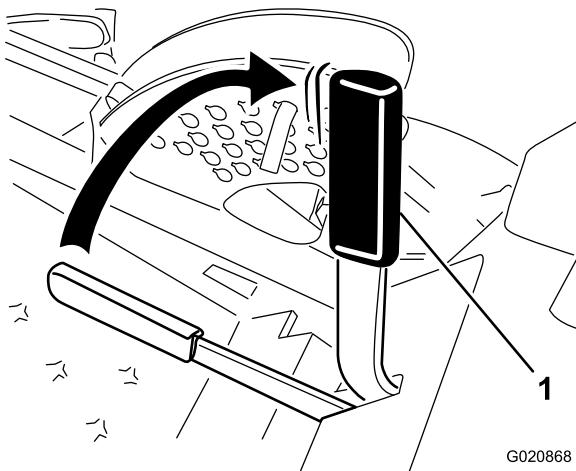

Figure 13
2. Pull up and back on the parking brake lever to set the parking brake (Figure 13).